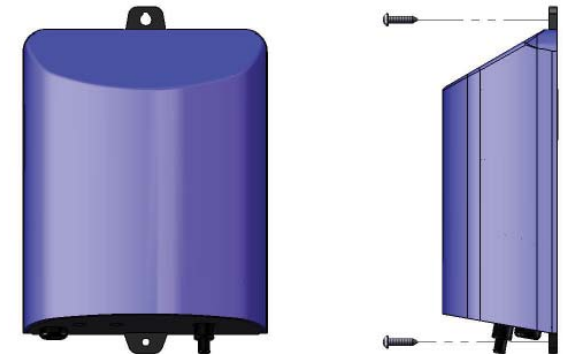

Figure 1 Wall Mount
7. Install at least 5 feet (1.5 meters) from wall of pool. Install ozone generator no less than one (1) foot above maximum water level to prevent water from contacting electrical equipment. Install in accordance with the installation instructions.
10. The ozone generator must be installed in an outdoor location, or indoors in a forced air ventilated room, and installed so that the orientation is exactly as shown in Figure 1.
The ozone generator units are designed for wall mounting. See Figure 1. Mount generator in a clean, protected area, either indoors or outdoors (preferably out of direct sunlight). Locate generator out of reach of sprinklers or drainage spouts. Allow sufficient access for maintenance and all tubing and electrical wires. Ozone generator should be installed at least (not less than) one foot above the maximum water level. See Section 2D-2, Ozone Gas Line, for plumbing instructions based on mounting location.
1. Refer to Figure 1 to mark the locations for the two mounting screws.